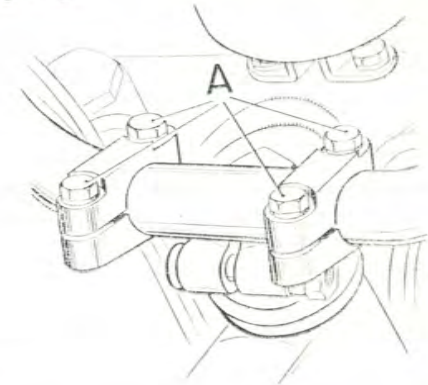

FIG. 2.
Make sure that the bolts (A) Fig. 2, retaining the handlebar clamps are tight after completing any adjustment. The brake pedal stop pin should be set so that the pedal is situated comfortably below the foot (see Rear Brake Pedal, page 10).